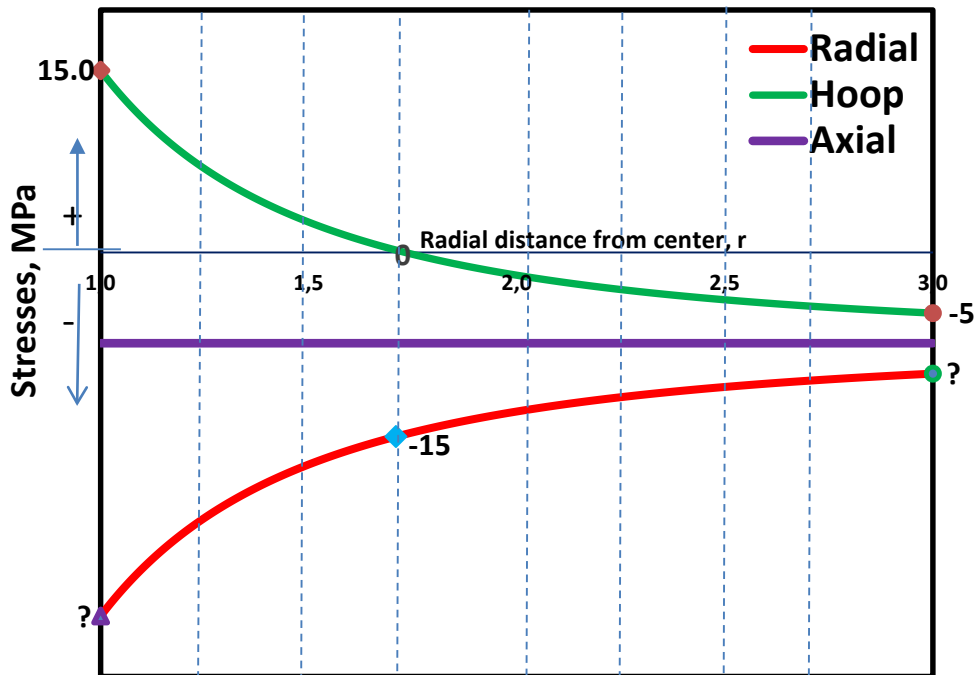

Figure 6: Stress fields in thickness of a thick walled cylinder
- 14 Assume an open-and-closed end cylinder having inner and outer radius 1cm and 3 cm, respectively. Assume that the cylinder is loaded with internal and external pressures. The yield strength of the cylinder is 39MPa. **Figure 6** shows the stress distribution across the wall thickness of the cylinder.